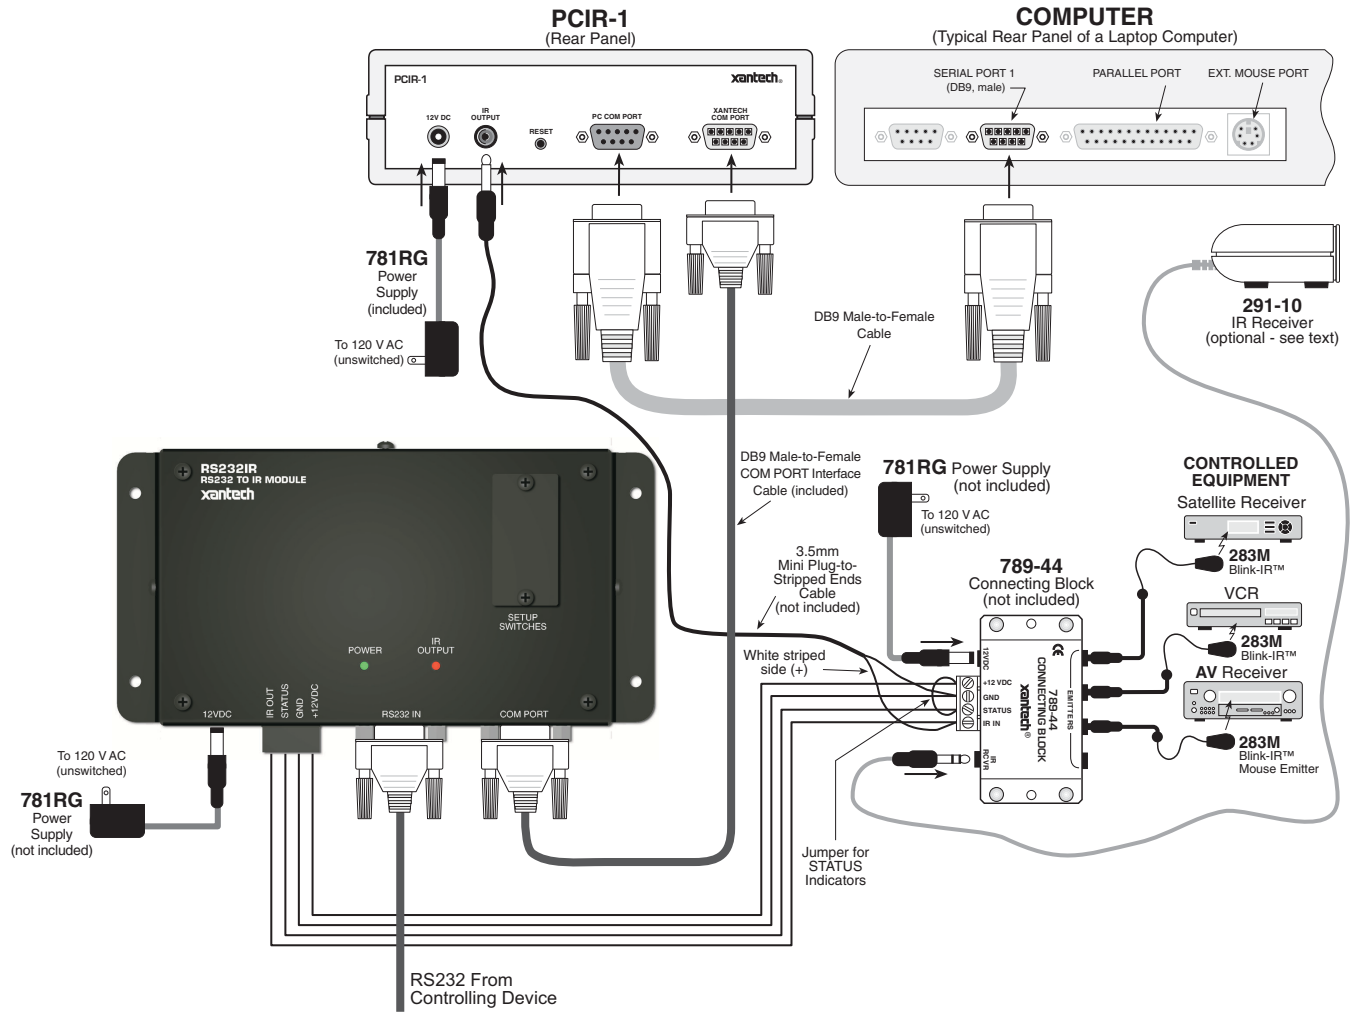

Figure 1 – Hardware Connections
1. Connect all of the hardware together using the cables provided. Refer to **Figure 1**.
3. **Figure 1** also shows a 291-10 IR Receiver as an optional item. You could use this to test IR commands on the controlled equipment through the IR system before they are learned and programmed by Dragon Drop-IR, if programming IR.
10. With the PCIR connected to the Connecting Block as shown in **Figure 1**, select "TEST" in the Palette Editor. The TEST button outline will turn red.